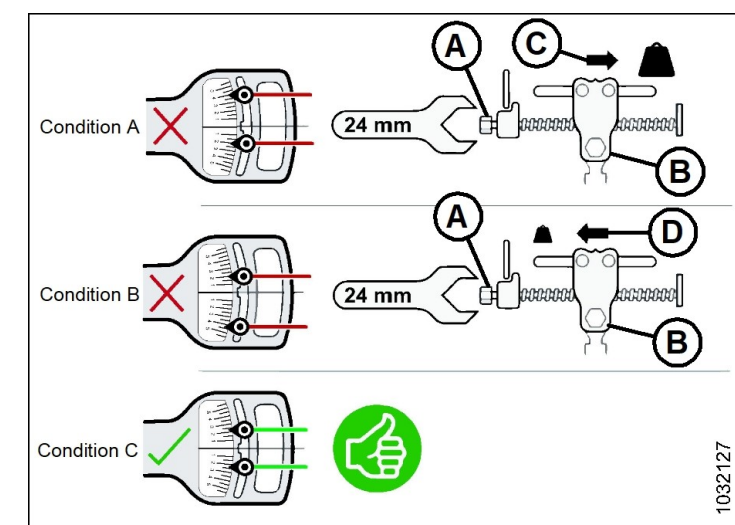

Figure 9: Wing Balance Adjustment
- On flex checker plate, pinch indicators (A) and (B) together with your fingers.
- Use tool (C) to rotate flex checker plate up until pin reaches the end of slot. The lower indicator (B) will move down to give the first reading.
- Use tool (C) to rotate flex checker plate down until pin reaches the end of slot. The upper indicator (A) will move up to give the second reading.
- Refer to Figure 9 and compare the two readings as follows: